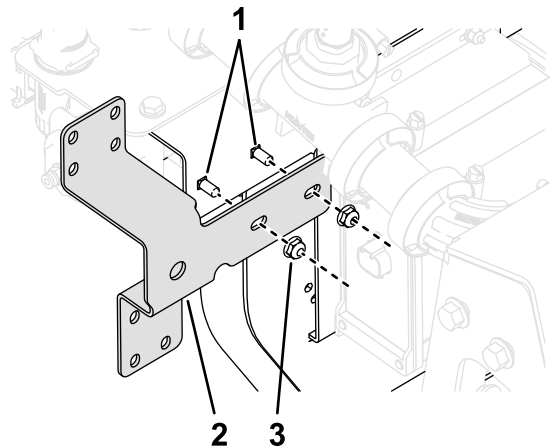

Figure 36
13. Install the control valve bracket assembly to the machine with 2 carriage bolts (1/4-20 x 5/8 inch) and 2 locknuts (1/4-20 inch) as shown in Figure 36; torque the bolts to 10 to 12 N·m (86 to 106 in-lb).